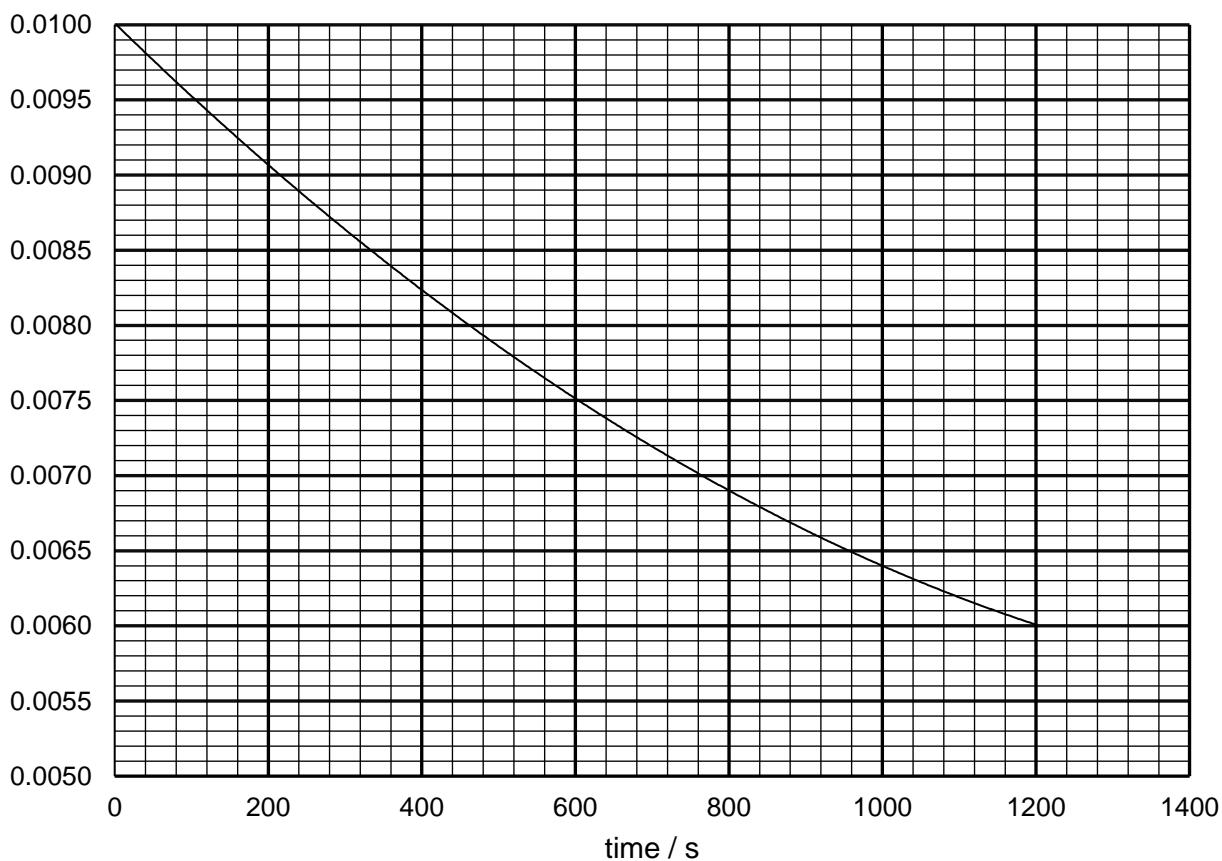

Fig. 2.3
The concentration of butadiene is monitored at fixed time intervals in an experiment and the results are shown in Fig. 2.3.
- (i) Using Fig. 2.3, determine the initial rate of reaction, in mol dm⁻³ s⁻¹, for this experiment. Show your working clearly.